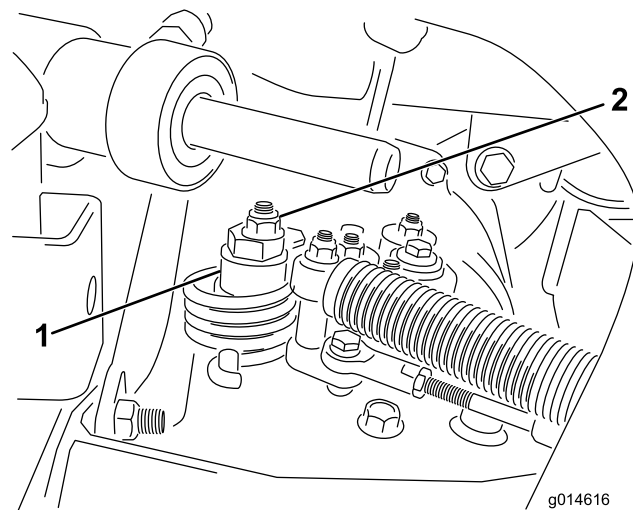

Figure 40
- A. Loosen the nut securing the eccentric to the top of the hydrostat (Figure 40).
- C. Rotate the eccentric until creep does not occur in either direction. When the wheel stops rotating, tighten the nut locking the eccentric and the adjustment (Figure 40). Verify the adjustment with the throttle in the SLOW and FAST position.